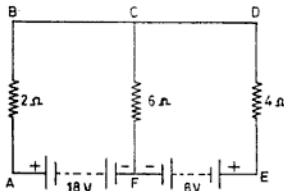

Fig. NE 9.26
- 9.26 Find the value and direction of current in each resistance of the circuit shown in Fig. NE 9.26. Assume the internal resistance of the batteries to be negligible.